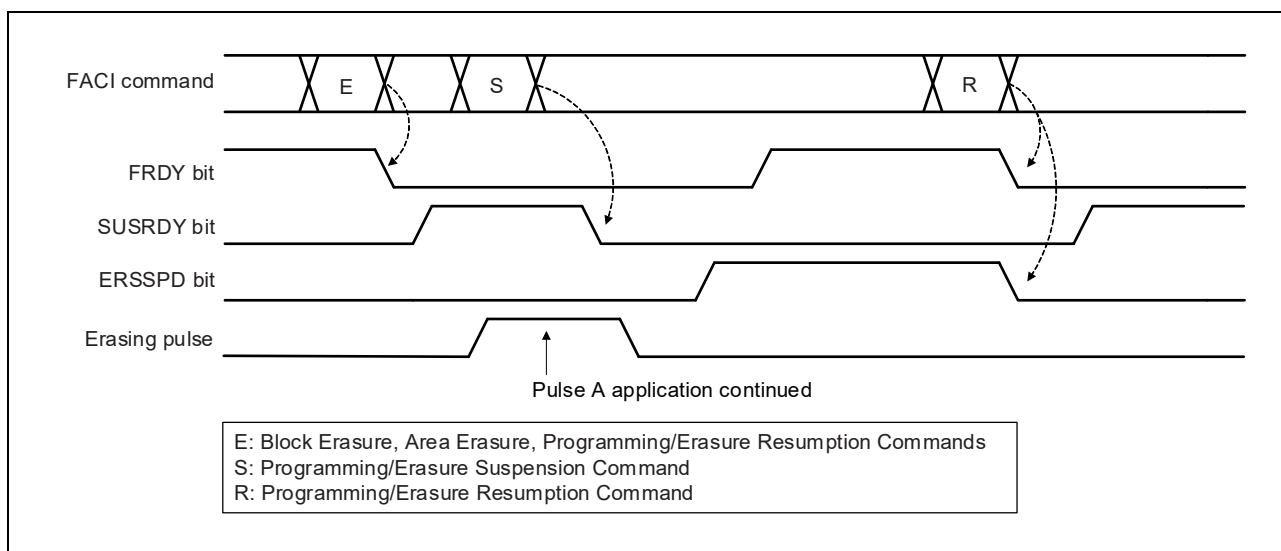

**Figure 6.14 Suspend Programming Command**
If a Programming/Erase Suspension Command is issued while the flash memory is being programmed, the flash sequencer suspends programming. **Figure 6.14** shows the suspending operation. Once the flash sequencer enters a state where it is ready to accept the Programming/Erase Suspension Command after the start of programming, SUSRDY bit is set to 1. If the Programming/Erase Suspension Command is issued, the flash sequencer accepts the command and clears SUSRDY bit. If the flash sequencer accepts the command while applying a programming pulse, the flash sequencer continues applying the pulse. After a specified pulse application time has elapsed, the flash sequencer completes applying the pulse, suspends programming, and sets the FSTATR\_n.PRGSPD bit to 1. Once the suspension process is complete, the flash sequencer sets the FRDY bit to 1 and enters programming suspended state. If the flash sequencer accepts the Programming/Erase Resumption Command in this state, the flash sequencer clears the FRDY and PRGSPD bits to 0 and restarts programming.
**Figure 6.14** gives an overview of operation for suspending programming command processing. Upon accepting programming command, the flash sequencer clears FRDY bit to 0 and starts programming.